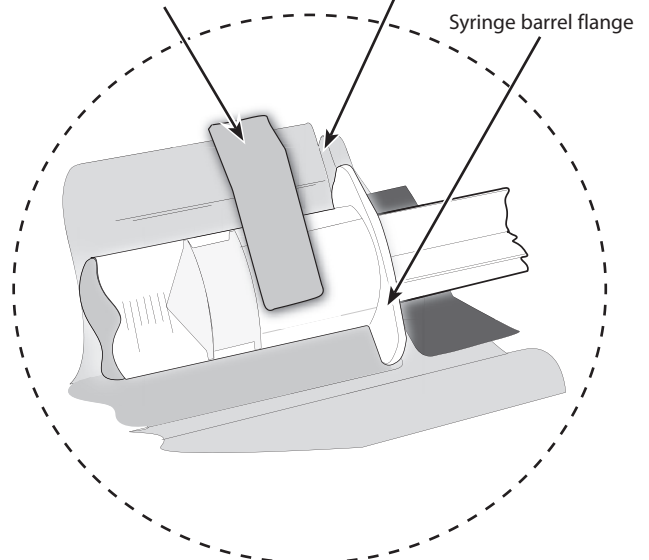

Figure 2.
5. Squeeze the finger grips on the plunger holder and slide the mechanism to the right until the syringe barrel flange locates into the V slot (see Figure 2).
7. Rotate the syringe clamp until it locks onto the syringe barrel (see Figure 2).